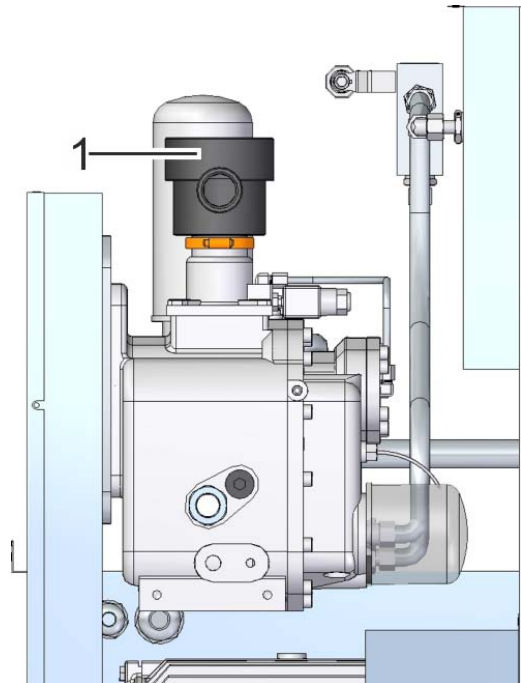

Fig. 40: Unfastening the clamp on the intake filter
3. Unscrew and remove the cover from the intake filter (Fig. 40/1).
6. Screw the cover back on the intake filter (Fig. 40/1).
7. Unfasten the intake filter (Fig. 40/1).